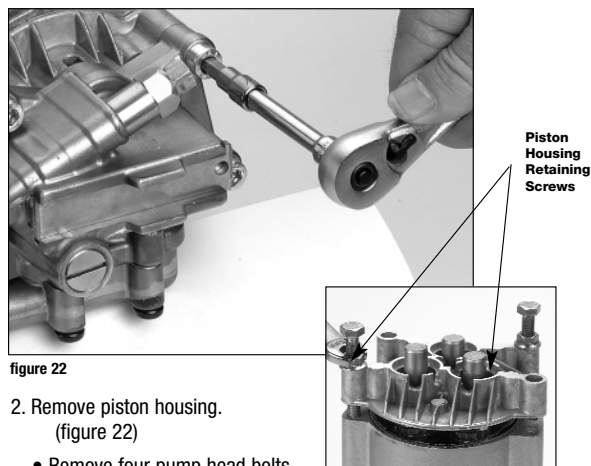

figure 22
2. Remove piston housing. (figure 22)
- Re-install two of the pump head bolts with a 1/2" shim composed of washers or a metal sleeve about 3/8" in diameter into two diagonally opposing weep holes of piston guide housing. (figure 22)
- Back off the housing by loosening up on the two pump head bolts until spring tension in the piston guide housing is relieved. (inset figure 22)